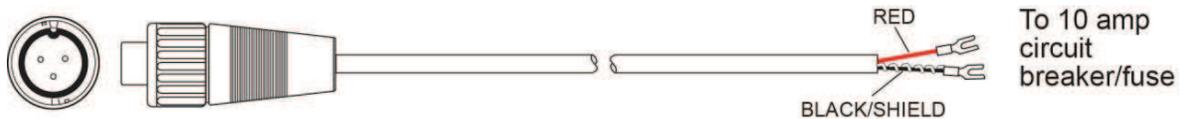

Figure 2: C91-20PW Power Cable
- ❑ Using the wire cutters and wire strippers, prepare the end of the cable as necessary for your installation (**Figure 2**).